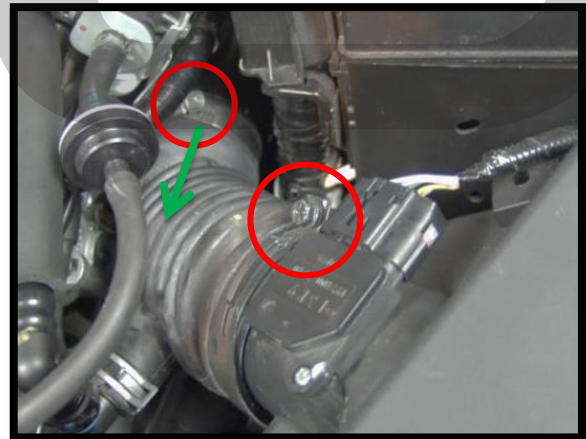

Figure 1b
- b) Loosen the two (2) 10mm hose clamps on the factory rubber intake elbow (red circles in Figure 1b).
- c) Pull the OEM intake elbow off the OEM turbo inlet pipe. Pull in direction shown with green arrow in Figure 1b.